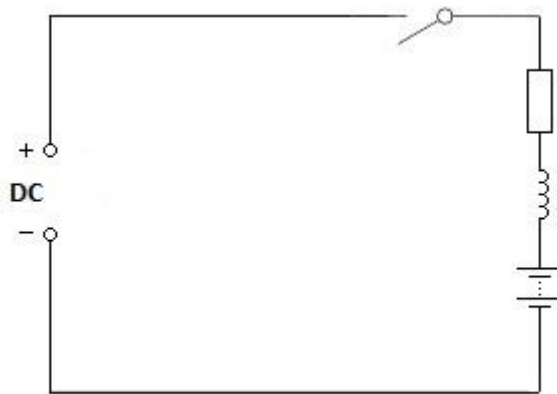

Figure 73
4. A simple motor circuit diagram is shown in Figure 73.